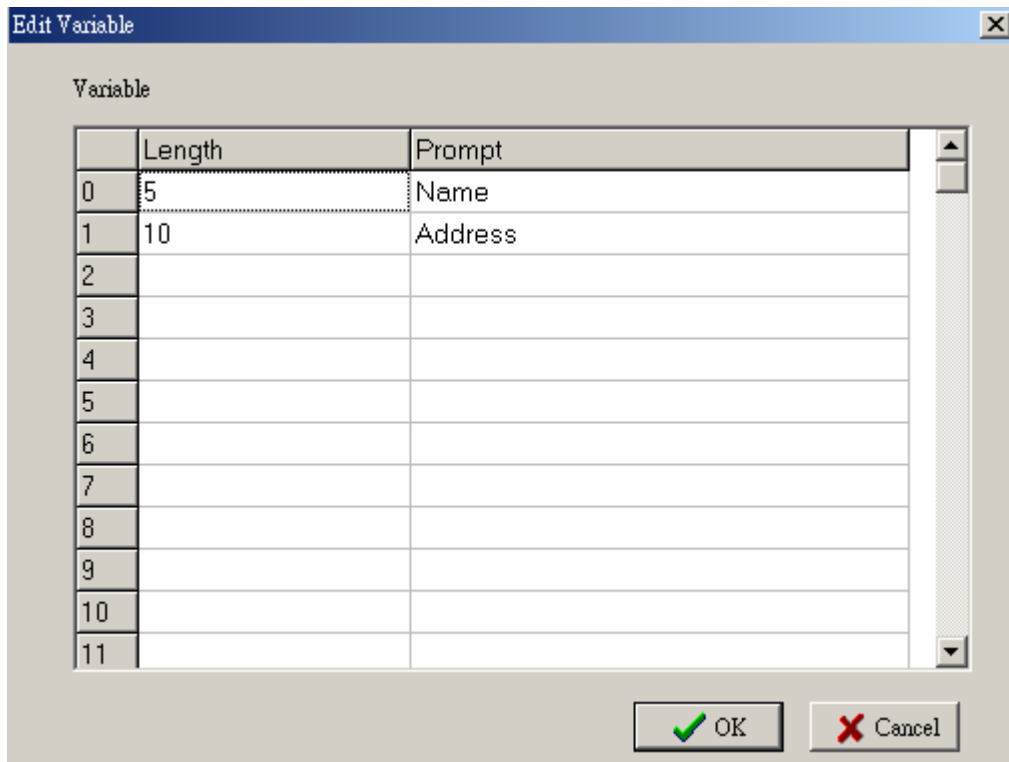

Fig.13.4
1. Double click the object that you want to edit. (refer to the Fig.13.4)